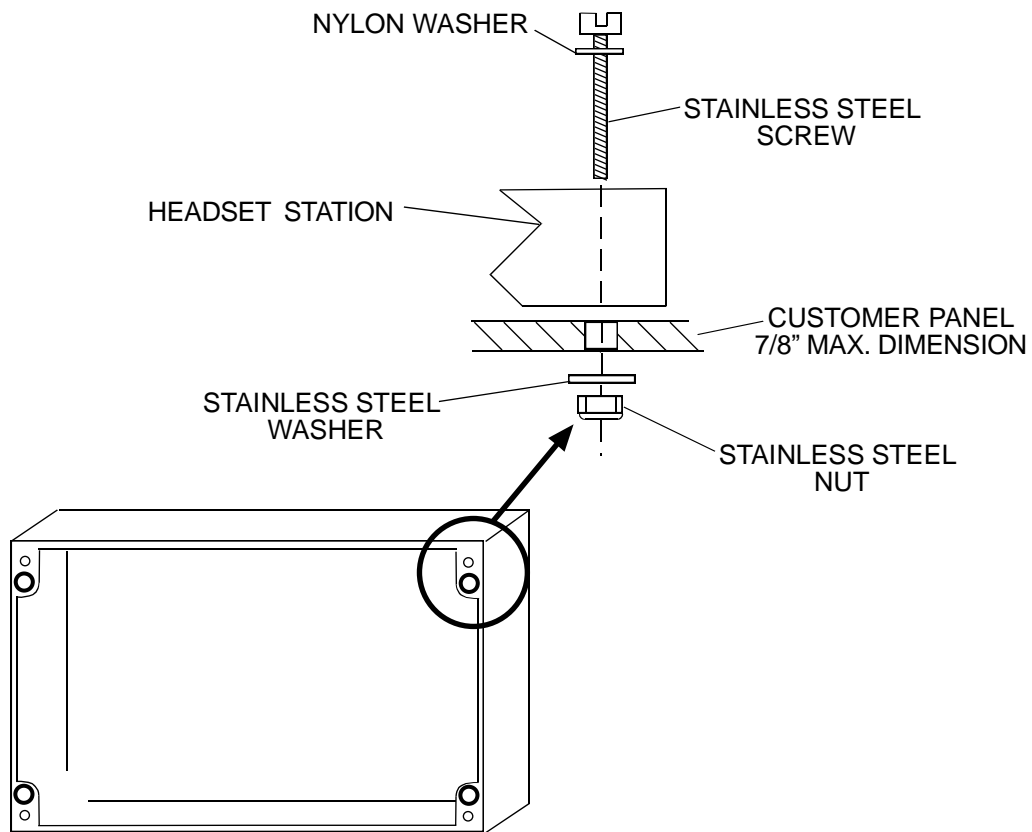

Figure 2: M-RIM Mounting Diagram
- Using a Philips screwdriver, remove the 4 screws on the cover of the M-RIM and lift off the cover. Observe the 4 mounting holes in each corner, as shown in **Figure 2**.
- On the backside of the mounting wall, use the provided flat washer and lock nut to secure the M-RIM (**Figure 2**).